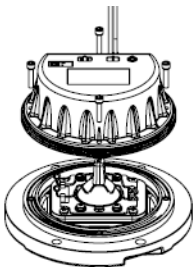

Figure 5-8
- Place the top of the lighting fixtures downwards and unscrew the screws with 4mm socket head wrench to separate the upper cover and inner cover of the lighting fixtures (see Figure 5-8).